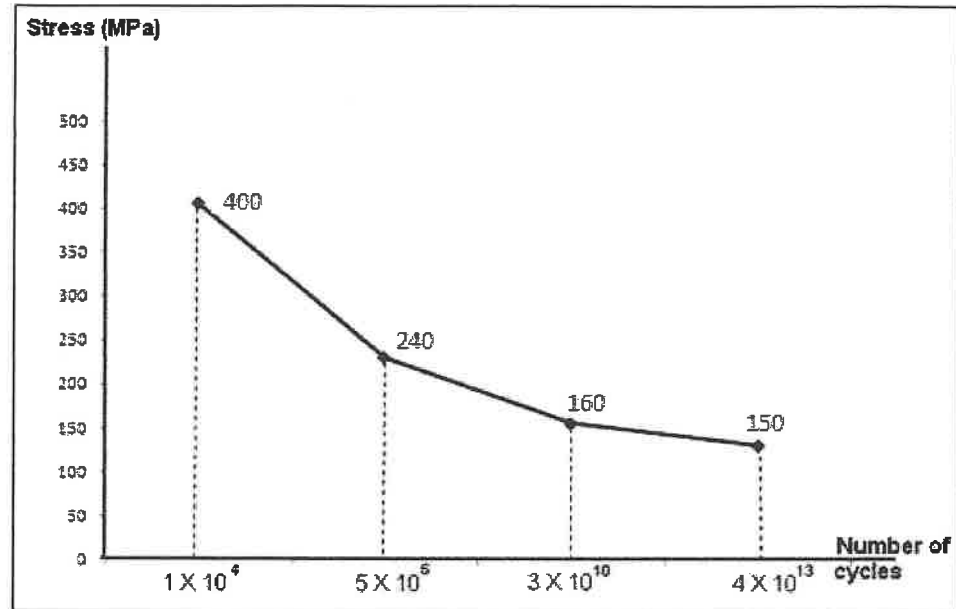

Figure Q3
- e) **Figure Q3** shows a part of S-N curve of Metallic material. A rotating shaft made of this material has experienced the following loading. When it was used following rotations have been done.